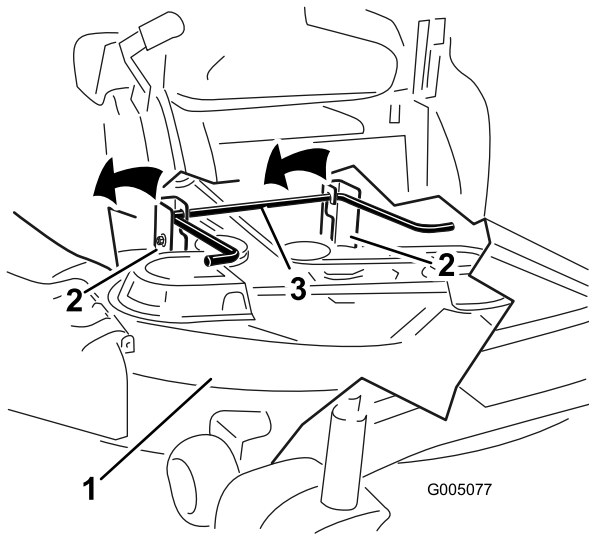

Figure 72
- 1. Deck-lift spring (2)
7. Lift the mower deck and hanger brackets clear of the rear lift rod and lower the mower carefully to the ground (Figure 72).
5. Lift the rear of the mower deck and guide the hanger brackets over the rear lift rod (Figure 72).